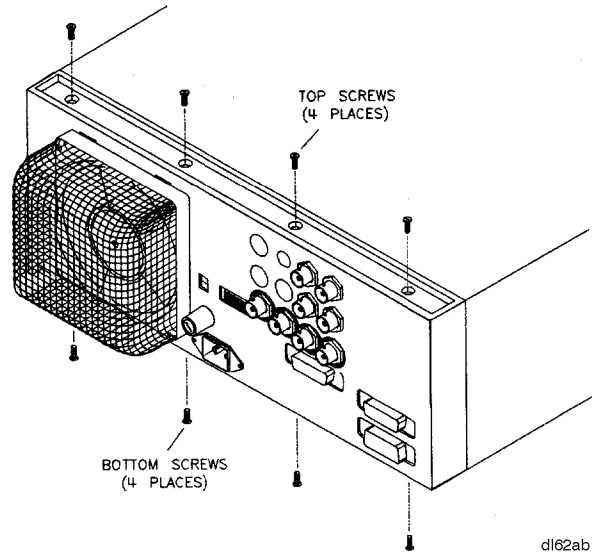

Figure 10. Rear Panel Removal
33. Refer to Figure 10. Remove the four screws on the top back edge and the four screws on the bottom back edge.